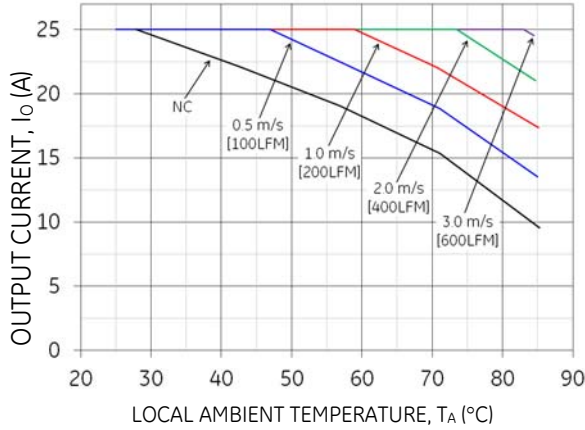

Figure 19. Output Current Derating for the Open Frame QBVW025A0B in the Transverse Orientation; Airflow Direction from Vin(-) to Vin(+); Vin = 48V.
Increased airflow over the module enhances the heat transfer via convection. The thermal derating of figure 19- 23 shows the maximum output current that can be delivered by each module in the indicated orientation without exceeding the maximum THx temperature versus local ambient temperature (TA) for air flows of, Natural Convection, 1 m/s (200 ft./min), 2 m/s (400 ft./min).
The use of Figure 19 is shown in the following example:
Determine required airflow (V) (Use Figure 19):